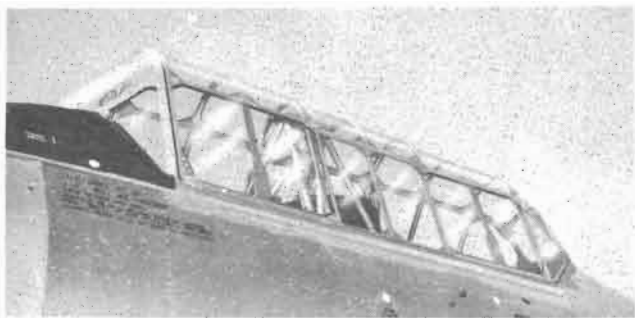

Figure 95 — Cockpit Enclosure
(4) COCKPIT ENCLOSURE.—(See figure 95.)—The two tandem cockpits are under one enclosure, which consists of a windshield assembly, a sliding section